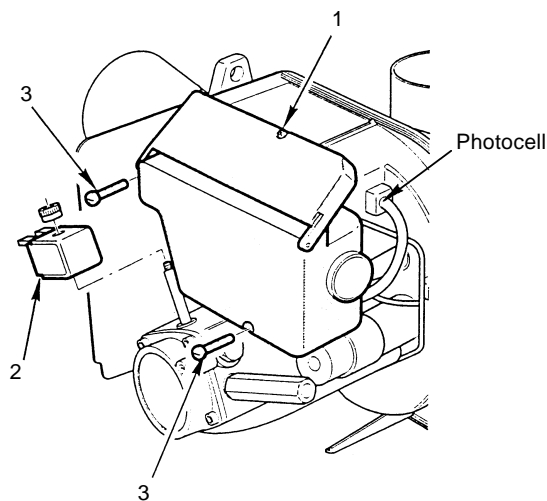

Fig. 36
- 4 **Photocell** - The photocell is a push-fit in the burner body, see Fig. 36. Carefully pull out the photocell to clean.
- 7 **Control box (see Fig. 36)** - With the plastic burner cover removed, loosen the screw (1) securing the cover. Open the cover and remove all components. Remove the oil pump solenoid (2) and loosen the two screws (3). Move the control box slightly and disconnect the high voltage leads.